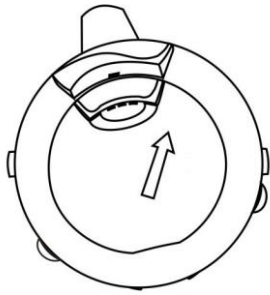

Fig. 1
2. Put the switch to position "1". See Fig. 1